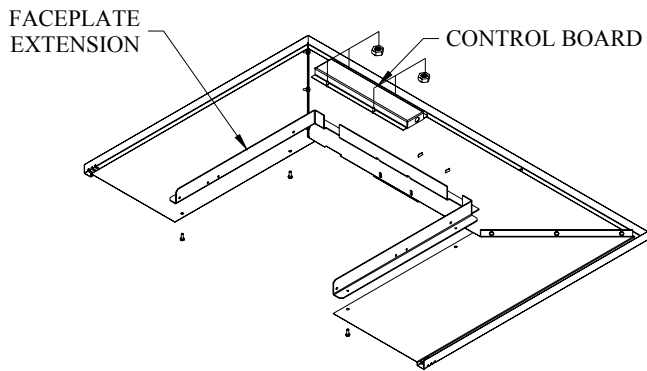
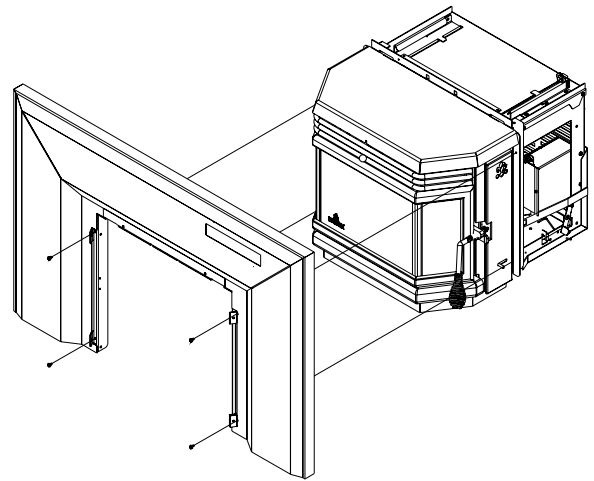

Figure 31
Figure 32
- 6- Install the control board on the upper right side of the faceplate(Figure 31). Slide the faceplate on the insert as shown in Figure 32 and secure it to the stove with 2 screws on each side.